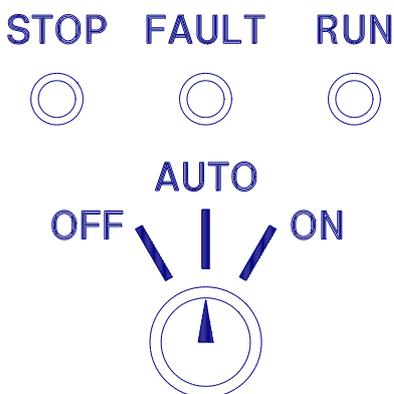

FIG 6.1.1
- Standard module available which includes a PCB module (2 options) with switch and LEDs, a connector block for field wiring, and labels (see Fig 6.1.1).